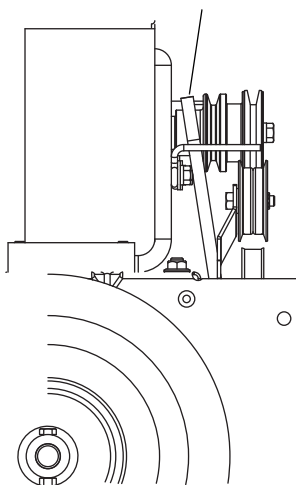

Figure 28
3. Push the traction drive belt off the engine pulley toward the engine as shown in Figure 28.
5. Place new traction drive belt on engine pulley between the engine and pulley groove as shown in Figure 28.